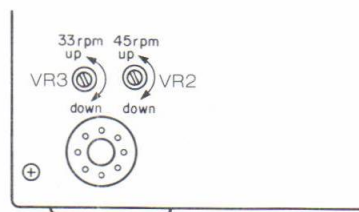

Fig. 26
#### (E) Alignment of Rotation Speed (Figure 26)